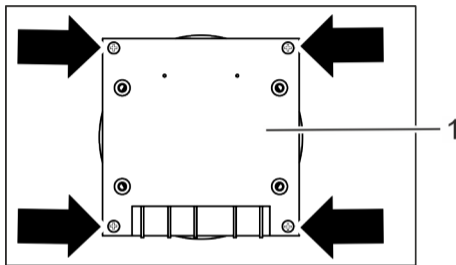

Fig. 7: Assembling the actuator (receiver)
1. Insert the actuator (receiver) (Fig. 7/1) in the mounting plate on the boiler.
2. Tighten the four screws on the actuator (receiver) (Fig. 7).